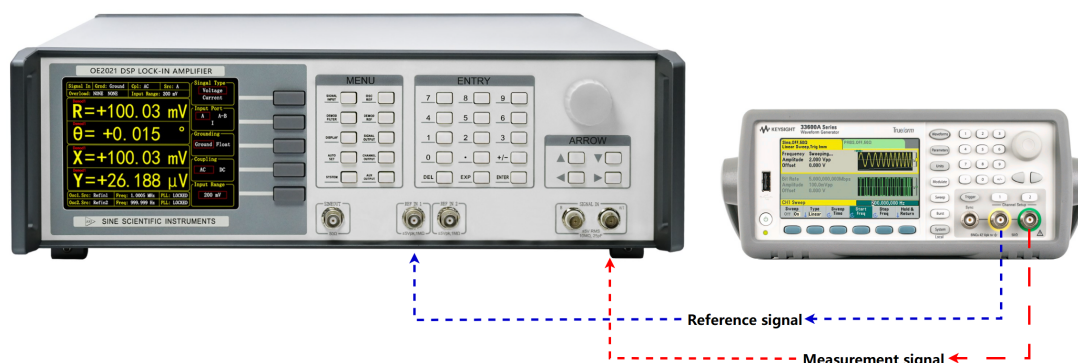

Figure 100. Signal Cable Connection Diagram
2. Use a signal cable with BNC connectors to connect the output connector of the function generator to the IN+ connector of SIGNAL IN on the front panel of the OE2021. Use another BNC signal cable to connect the reference signal connector of the function generator to the REF IN 1 connector on the front panel, as shown in Figure 100.